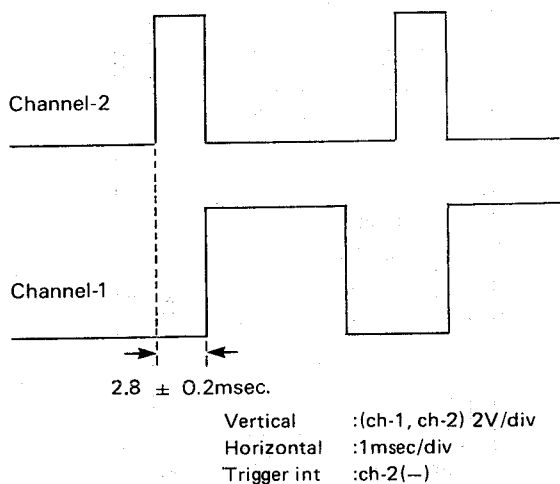

Figure 42.
4. Adjust R729 (tracking preset control) so that the output waveform is as shown in Fig. 42.